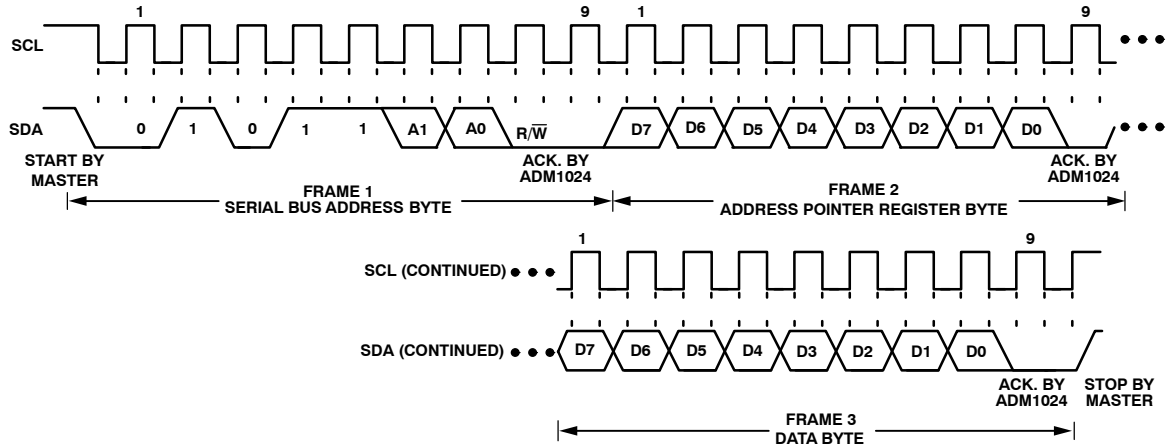
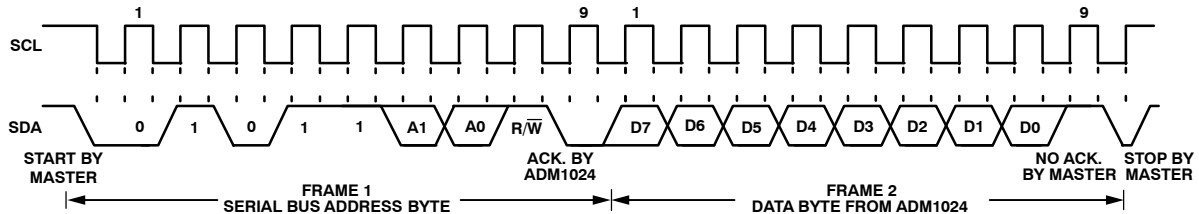

Figure 10. Writing a Register Address to the Address Pointer Register, then Writing Data to the Selected Register
Figure 12. Reading Data from a Previously Selected Register
To write data to one of the device data registers or read data from it, the Address Pointer Register must be set so that the correct data register is addressed, then data can be written into that register or read from it. The first byte of a write operation always contains an address that is stored in the Address Pointer Register. If data is to be written to the device, the write operation contains a second data byte that is written to the register selected by the Address Pointer Register. This is illustrated in Figure 10 The device address is sent over the bus followed by $R/\overline{W}$ set to 0. This is followed by two data bytes. The first data byte is the address of the internal data register to be written to, which is stored in the Address Pointer Register. The second data byte is the data to be written to the internal data register.
A read operation is then performed consisting of the serial bus address, R/W bit set to 1, followed by the data byte read from the data register. This is shown in Figure 12.
2. In Figure 10 to Figure 12, the serial bus address is shown as the default value 01011(A1)(A0), where A1 and A0 are set by the three-state ADD pin.